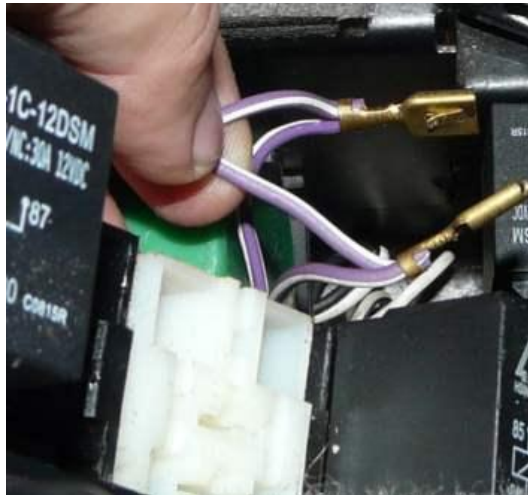

Figure 3: Wire and pins, pulled from white relay socket
2) The original wiring has the front and rear dome lights attached to pins #30 and #87 and jumpered together, both are purple/white wires, see Figure 3. below.